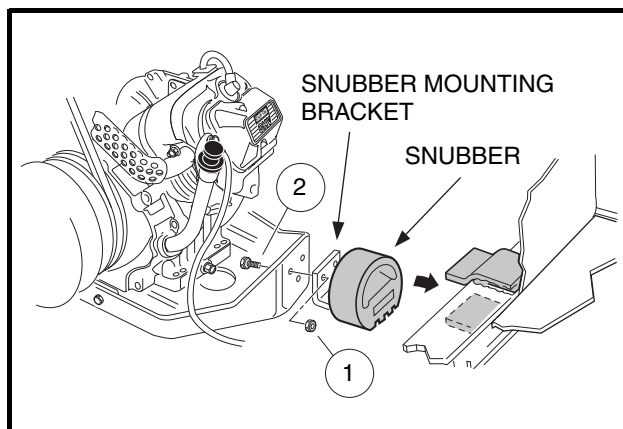

Figure 9-5 Snubber Brackets
2. Remove the two bolts (2) and two lock nuts (1) securing the snubber bracket to the engine mounting plate (**Figure 9-5, Page 9-6**).
2. Tighten snubber bracket mounting nuts (1) to 13 ft-lb (17.6 N·m) (**Figure 9-5, Page 9-6**).